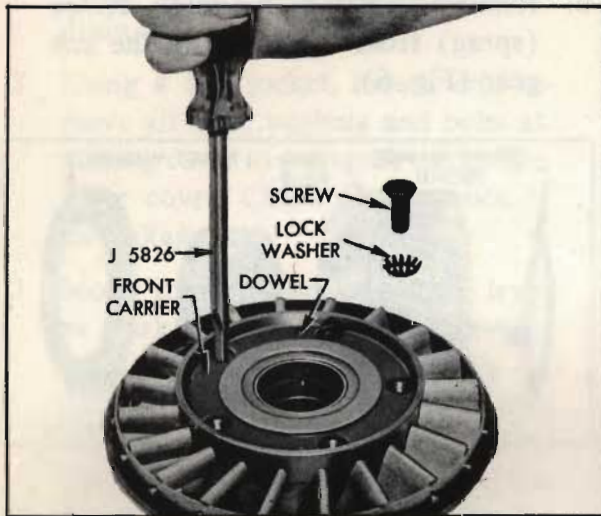

Fig. 8. Removing front carrier screws
- Using special screw driver, loosen and remove the stator blade front carrier screws and lockwashers. Remove front carrier. The front carrier is held to the rear carrier by two dowels (Fig. 8).